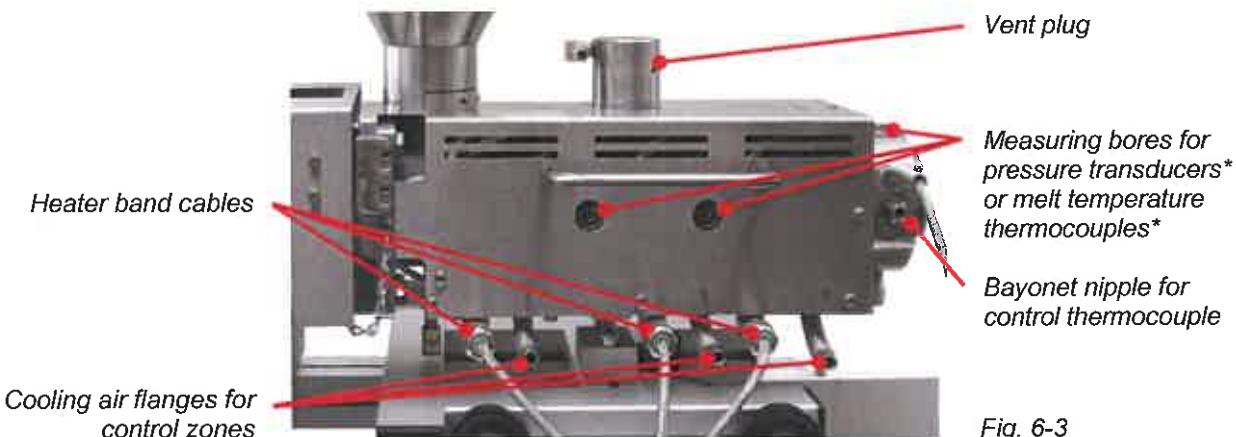

Fig. 6-3
- The processing unit has got a top vent opening which is closed with a vent plug in the standard version for operation without venting (see Fig. 6-3).